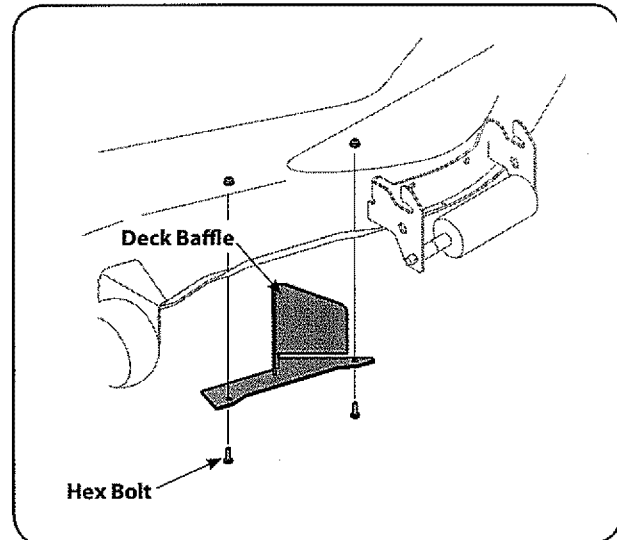

Figure 4-15
- Install the deck baffle included with the loose parts to the underside of the mowing deck using two 710-04666 hex bolts and 912-3027 flange lock nuts from hardware pack 689-00329, as shown in Figure 4-15.